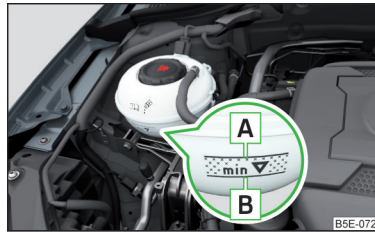

Fig. 319
**Check the coolant level** - the coolant level must be between the marks **A** and **B** » Fig. 319. If the coolant level is below the mark **B**, refill the coolant.
- Do not fill the coolant above the mark **A** » Fig. 319. When it heats up, the coolant could press out of the cooling system - there is a risk of damage to the engine parts.